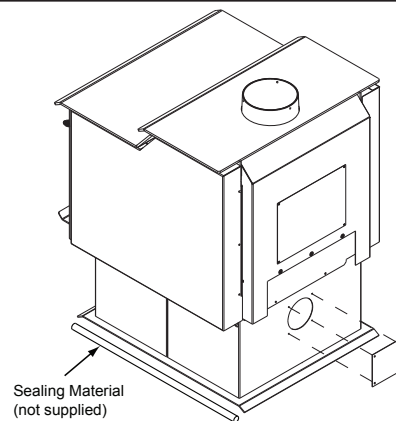

Figure 36.2 - Alternate Floor Installation
1. **Rear:** Remove the access cover on the back of the pedestal and discard (**Figure 36.2**).
If that is the case, follow the instructions for a rear installation install the flex pipe to the rear of the pedestal and remove the circular “Knock-Out” in the base of the pedestal. You must seal off the pedestal with non-combustible material (not supplied). The goal is to seal the pedestal so no room air can leak into the pedestal and to seal for cold air infiltration (**Figure 36.2**).